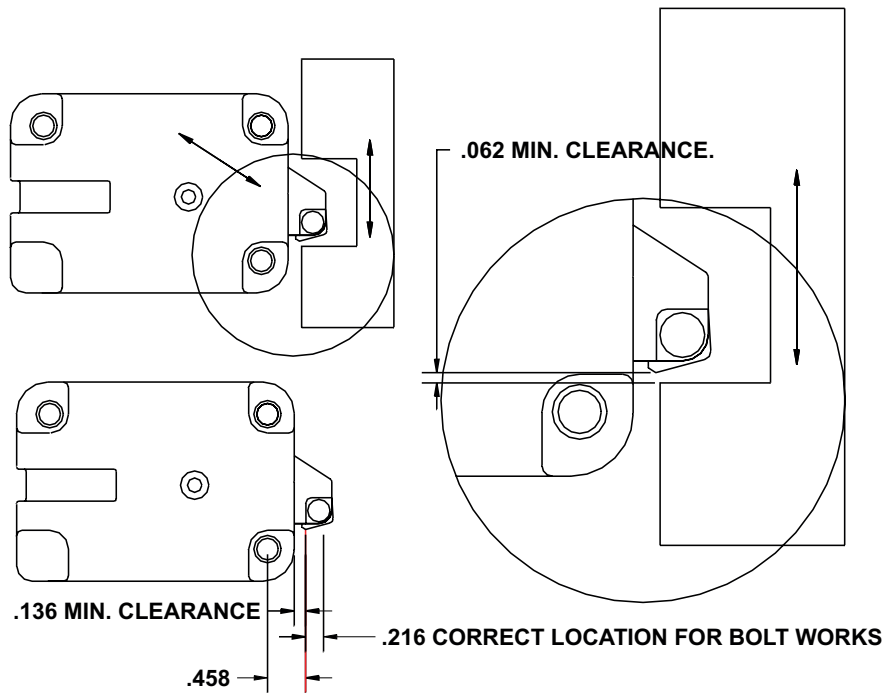
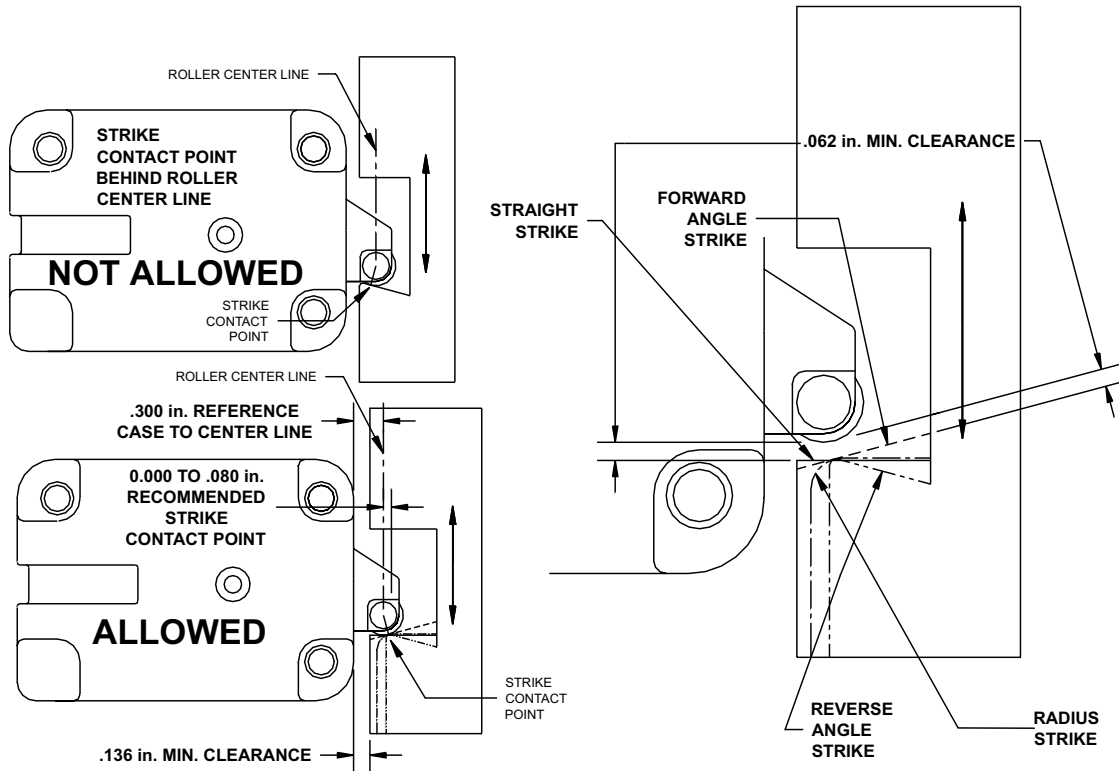

Figure 1 - Square Nose Slide Bolt Clearances and Positioning
Figure 2 - Roller Slide Bolt Clearances, Strike Types & Contact Points
2. Attach lock case to the container using the 1/4-20 screws, allowing 1/16" (.062) clearance between the lock bolt and the container locking bar. (See Figure 1 for proper clearances and positioning when installing a square nose slide bolt. See Figure 2 for proper clearances, strike types and contact points when installing a roller slide bolt.)